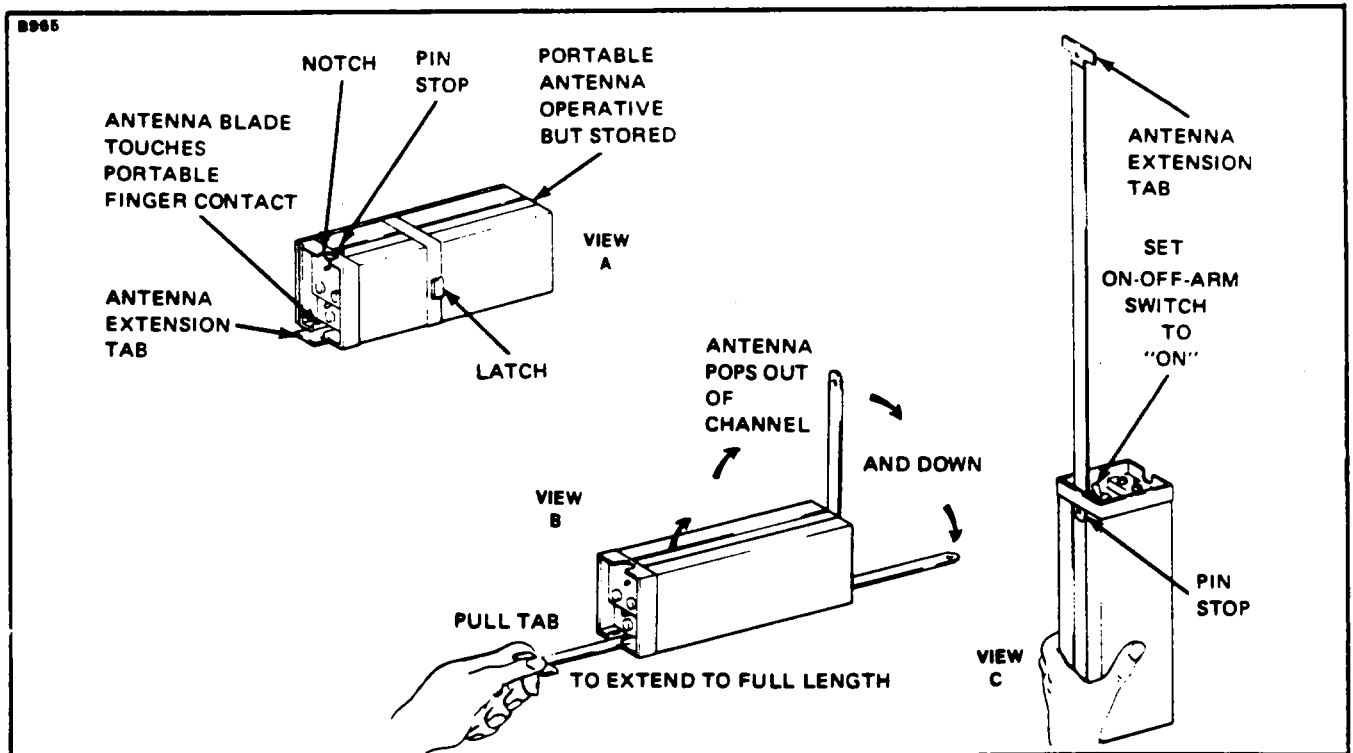

Figure 23-2. Portable Folding Antenna (Narco)
The ELT is located under the dorsal fin. (Refer to Figures 23-2 and 23-3.)
5. Extend the portable antenna. (See Figure 23-2.)